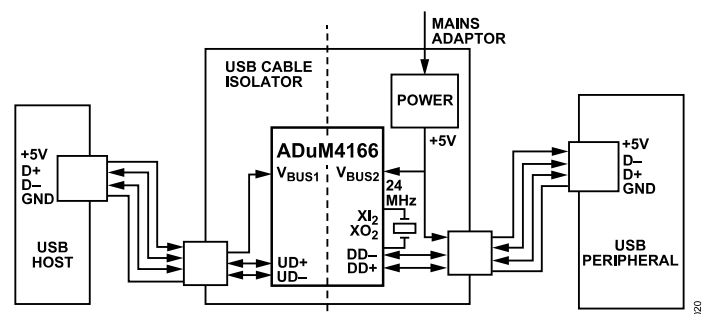

Figure 20. ADuM4166 USB Cable Isolator Application
In the example implementation shown in Figure 20, the ADuM4166 is used.
- ▶ Side 2 (downstream) power. The most convenient solution is usually to power Side 2 from the same power supply used to provide the 5 V on the USB cable. This power supply can be an independent supply, as shown in Figure 20, or via an isolated dc-to-dc converter that derives an isolated 5 V supply from the upstream USB cable power. When using an isolated dc-to-dc converter this way, it may be difficult to ensure the input current remains under the USB 2.0 limits for maximum permissible current drawn from the DFP of the host depending on the dc-to-dc converter efficiency and the output load, including Side 2 of the ADuM4166 together with any attached USB peripheral. An alternative in the case where an isolated dc-to-dc converter has an input current exceeding the USB 2.0 limits is to use an independent power supply for Side 2.